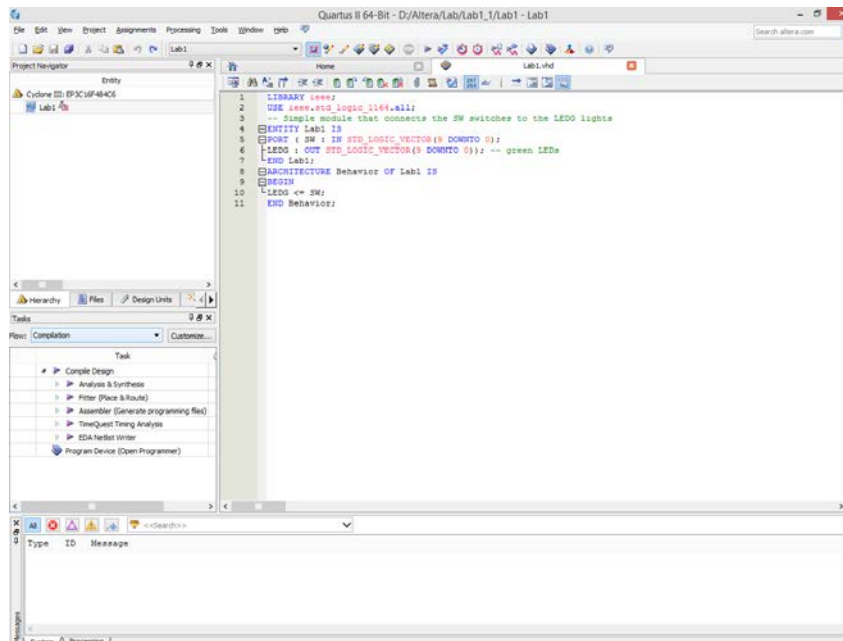

Fig 10. Area for VHDL code
1. Flip the RUN/PROG switch into the RUN position. Select **Tools > Programmer** that should look like fig 10.
3. The Programmer listed file in the window in fig 10. If the file not already listed the click Add file and select it. The file should in the output_files and look like the project name which in *.sof file. And checked Program/Configure then Start to program to DE-0.